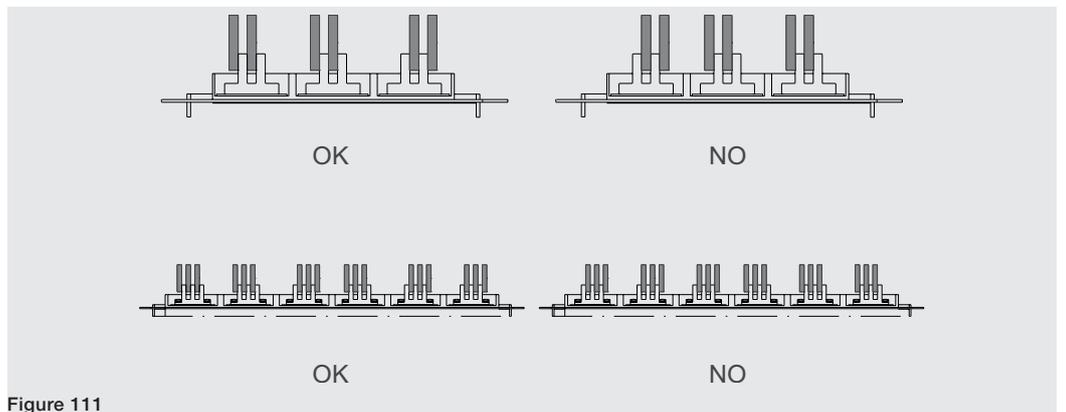

Figure 111
- Make sure that, accordingly to the number of busbars and terminal tangs, the busbars of the lateral phases are as distant as possible from the busbars of the central phase. See the example Figure 111.